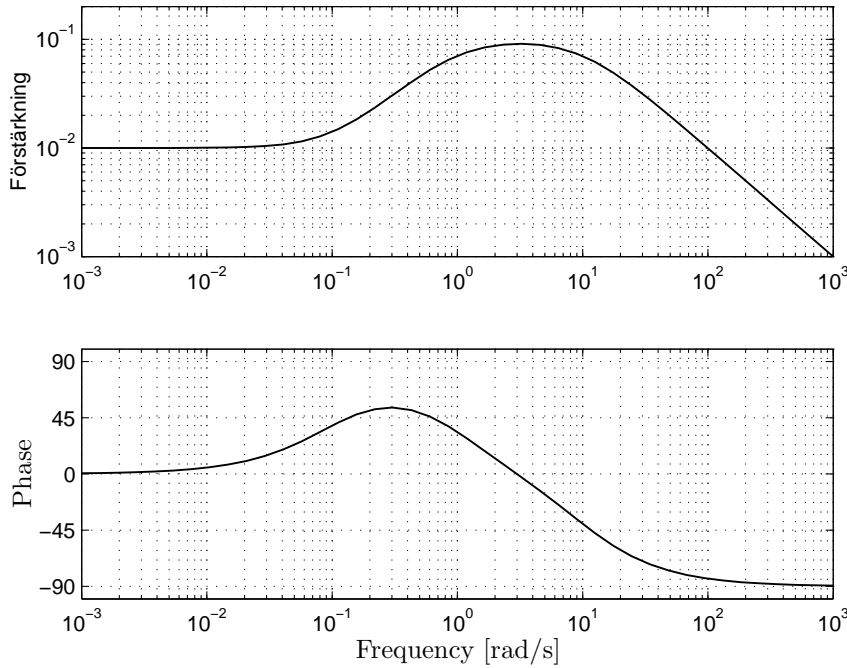

Figure 5.1 The Bode plot in assignment 5.3.
- The Bode plot of the system is shown in figure 5.1. Determine the output $y(t)$ by using the Bode plot instead.